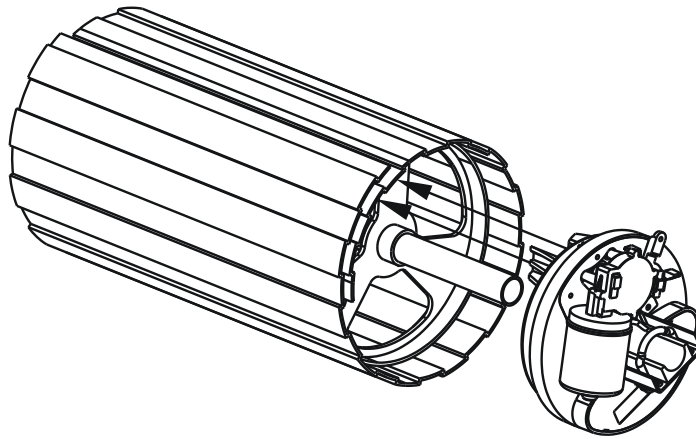

Fig 9
- 2.8 Orientate the Drive Unit as per Fig.9